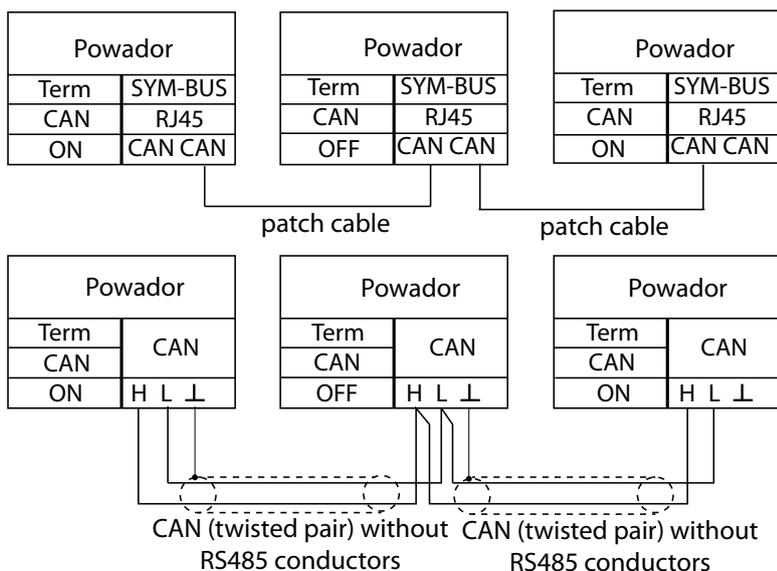

Figure 20: SYM bus wiring diagram in group of three
When a patch cable with an RJ45 plug is used, an RS485 connection, which is required for a proLOG connection, is established at the same time (Figure 20 on page 29).
- GND with GND (see Figure 20 on page 29)